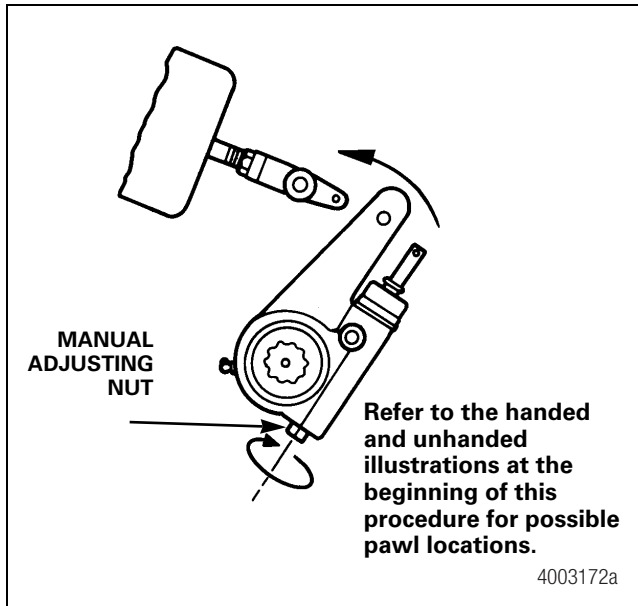

Figure 5.2
3. Rotate the slack adjuster manual adjusting nut **CLOCKWISE** to align the holes in the slack with the holes in the push rod clevis. Figure 5.2.